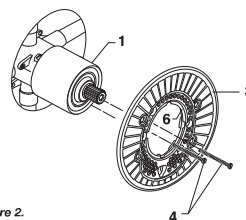

Figure 2.
- Figure 2. Make sure O-RING (6) is secure within ESCUTCHEON HOLDER (3). Push ESCUTCHEON HOLDER (3) onto CAP (1) and attach with LONG SCREWS (4).